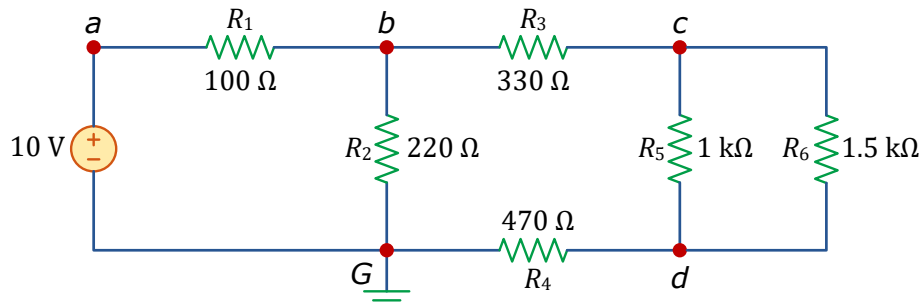
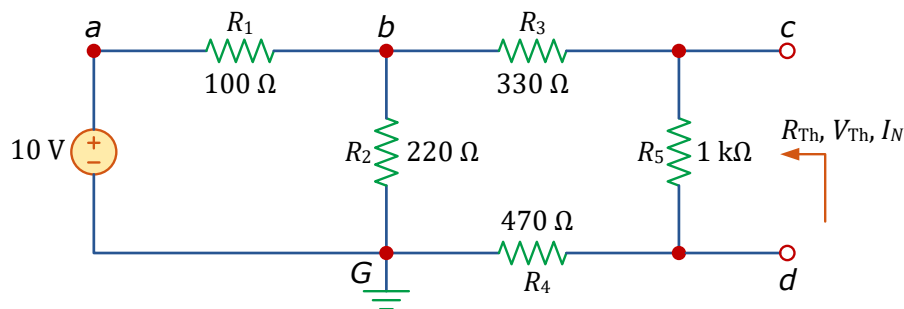

Figure 4.1: Resistive circuit for Pre-Lab 4.
Figure 4.2: Resistive circuit used to calculate Thevenin and Norton equivalent circuits from terminals c and d .
- 1 Consider the circuit of Figure 4.1. Find the Thevenin and Norton equivalent circuits from across terminals c and d (i.e., assuming R_6 to be a load resistor), as shown in Figure 4.2. Show all working and sketch the equivalent circuits.